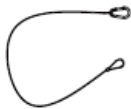

Figure 12
1. Locate the safety cable included with PLT-13623 and PLT-13624 (Figure 12).